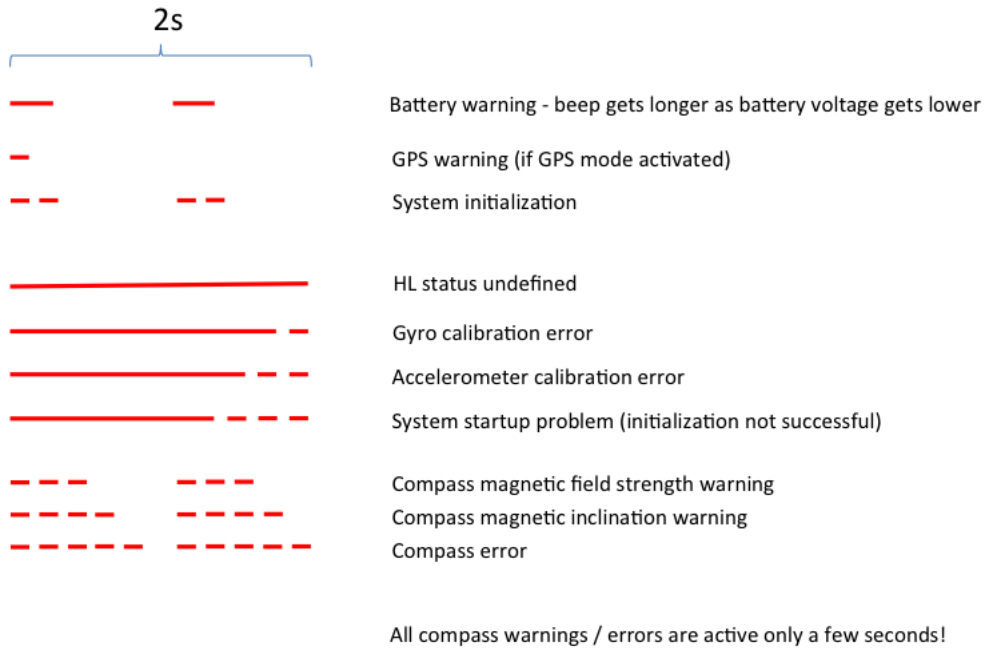

Figure 7: Figure of acoustic feedback
2. Turn on the motor. It should beep a few times and be quite. A detail of the acoustic feedback can be found at <http://wiki.asctec.de/display/AR/Acoustic+Feedback>. The common patterns are shown in Fig. 7.